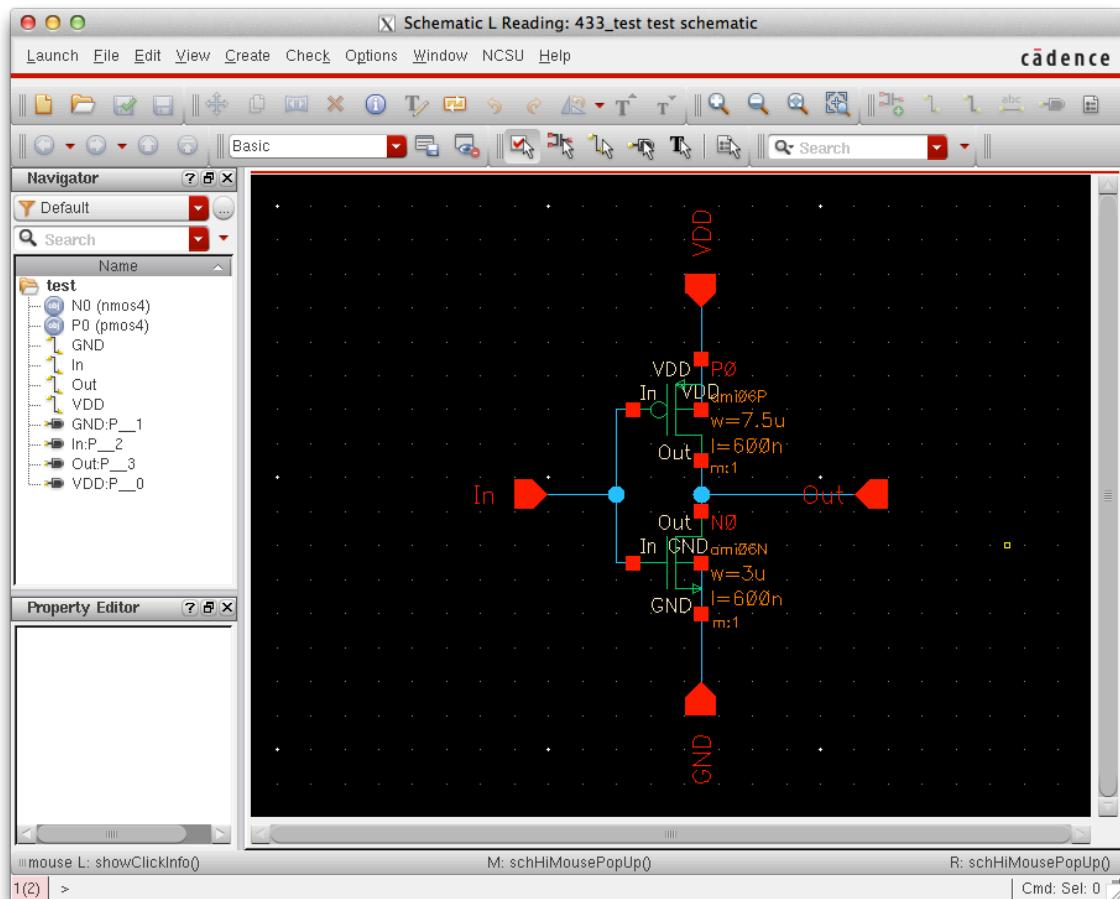

Figure 1: Schematic of the inverter with ports.
4. Ports are used to create accessibility to the nodes inside the schematic that we need after creating the symbol. To add a port press “P”. In the newly opened window, write “VDD” to be the Pin Name. Choose the direction of VDD to be input. Add “GND” and “In” port in the same way. For the pin “Out” choose the direction to be output. The final Schematic should look like fig.1.